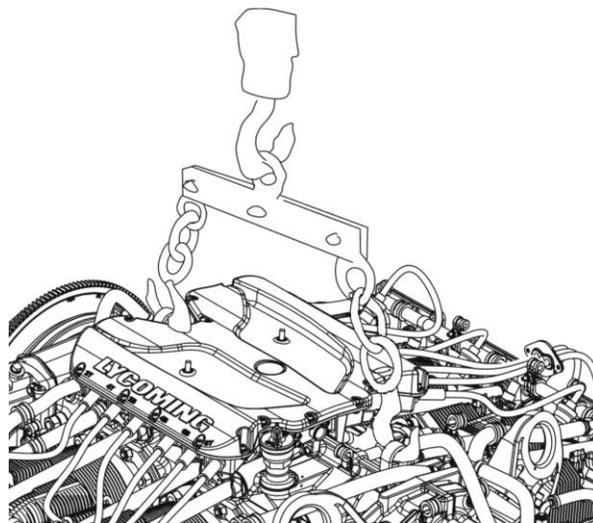

Figure 3
1. Connect the hoist and chains to the lifting straps (Figure 3) on the engine and remove any slack in the chain